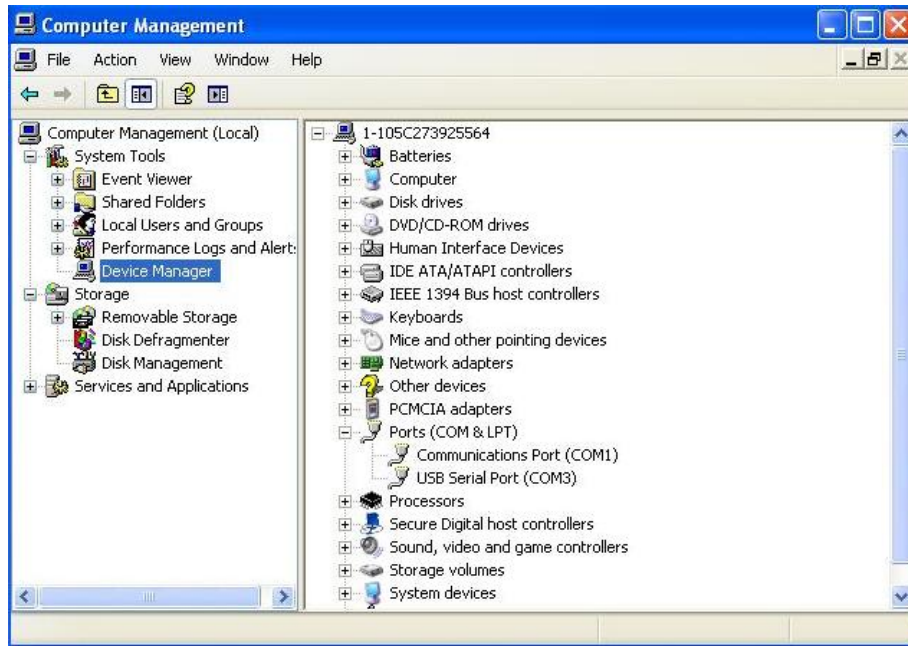
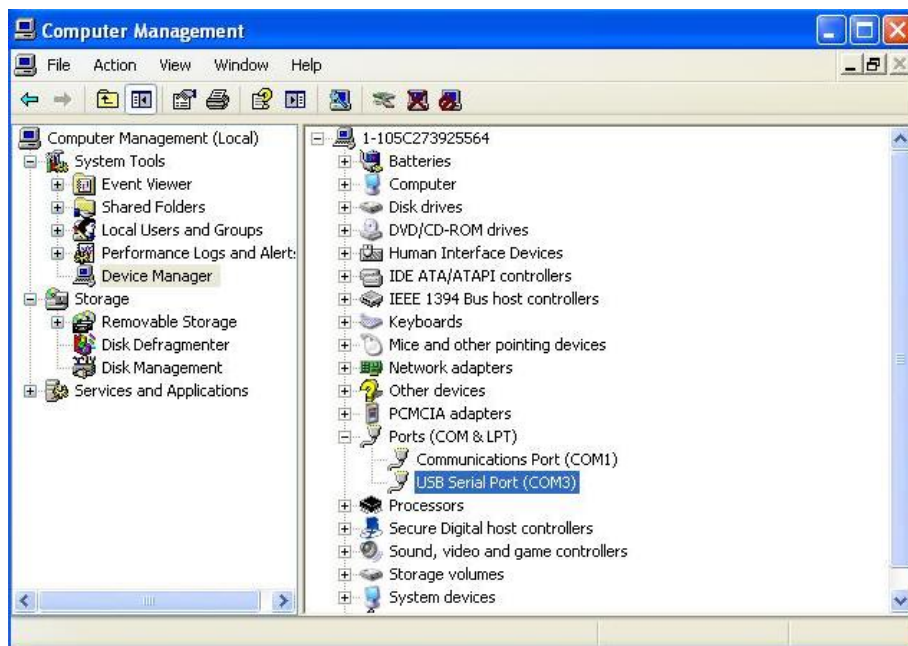

Fig.3.1.9 Device Manager
Fig.3.1.10 USB Serial Port
- In the open window, click "Device Manager", as shown in Fig.3.1.9 below.
- In the window of Fig.3.1.9, expand the branch item "Port", in which "USB Serial Port (Com 13)" is the COM port connected to the KLM lidar, as shown in Fig.3.1.10 below.